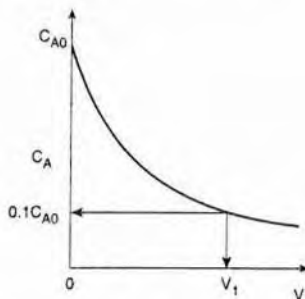

Figure E1-1.1 Concentration profile.
1. Species A is consumed as we move down the reactor, and as a result, both the molar flow rate of A and the concentration of A will decrease as we move. Because the volumetric flow rate is constant, $v = v_0$, one can use Equation (1-8) to obtain the concentration of A, $C_A = F_A/v_0$, and then by comparison with Figure 1-12 plot the concentration of A as a function of reactor volume as shown in Figure E1-1.1.